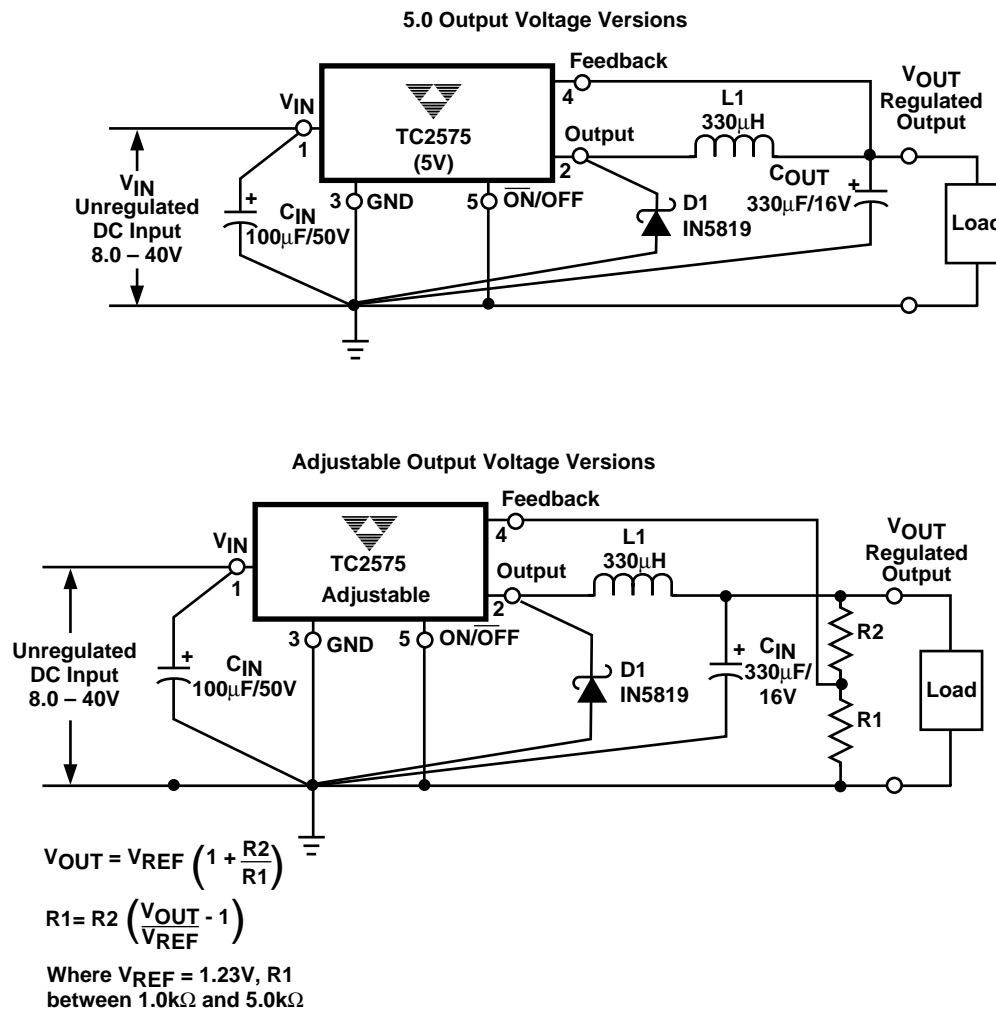

Figure 2. Typical Test Circuit
TC2575-3.3 [(Note 1) Test Circuit Figure 2]
TC2575-5 [(Note 1)Test Circuit Figure 2]
TC2575-12 [(Note 1) Test Circuit Figure 2]
TC2575-Adjustable Version [(Note 1) Test Circuit Figure 2]
**NOTES:** 1. External components such as the catch diode, inductor, input and output capacitors can affect the switching regulator system performance. When the TC2575 is used as shown in the Figure 2 test circuit, the system performance will be as shown in the system parameters section of the Electrical Characteristics.
As in any switching regulator, the layout of the printed circuit board is very important. Rapidly switching currents associated with wiring inductance, stray capacitance and parasitic inductance of the printed circuit board traces can generate voltage transients which can generate electromagnetic interferences (EMI) and affect the desired operation. As indicated in the Figure 2, to minimize inductance and ground loops, the length of the leads indicated by heavy lines should be kept as short as possible.
1. Programming Output Voltage To select the right programming resistor R1 and R2 value (see Figure 2) use the following formula: $V_{OUT} = V_{REF} \left( 1.0 + \frac{R2}{R1} \right) \text{ where } V_{REF} = 1.23V$ Resistor R1 can be between 1.0k $\Omega$ and 5.0k $\Omega$ . (For best temperature coefficient and stability with time, use 1% metal film resistors). $R2 = R1 \left( \frac{V_{OUT}}{V_{REF}} - 1 \right)$	1. Programming Output Voltage (selecting R1 and R2) Select R1 and R2 $V_{OUT} = 1.23 \left( 1.0 + \frac{R2}{R1} \right) \text{ Select } R1 = 1.8k\Omega$ $R2 = R1 \left( \frac{V_{OUT}}{V_{REF}} - 1.0 \right) = 1.08k \left( \frac{8.0V}{1.23V} - 1 \right)$ $R1 = 9.91k\Omega$ , choose a 9.88k $\Omega$ metal film resistor.